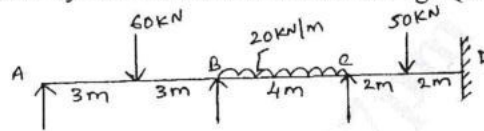

Fig. Q5
- 5 Analyze the continuous beam by Kani's method shown in Fig. Q5. Draw BMD. (16 Marks)